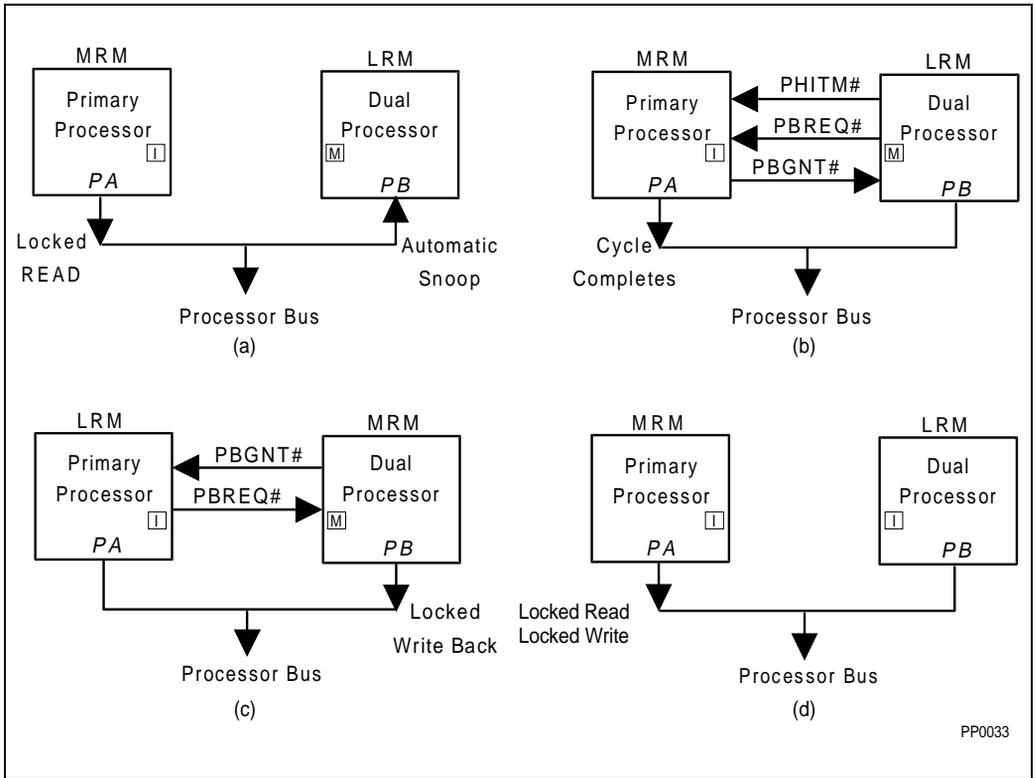

Figure 3-7. Dual-Processor Cache Consistency for Locked Accesses
2. A locked read to a cache line that is in the shared, exclusive or invalid state is always run on the system bus. The cache line will always be moved to the invalid state at the completion of the cycle. A locked read cycle that is run by the MRM could hit a line that is in the modified state in the LRM. In this case, the LRM will assert the PHITM# signal indicating that the requested data is modified in the LRM data cache. The MRM will complete the locked read, but will ignore the data returned by the system. The components will exchange ownership of the bus, allowing the Modified cache line to be written back with LOCK# still active. The sequence will complete with the original bus owner re-running the locked read followed by a locked write. The sequence would be as shown in Figure 3-7.
In Figure 3-7, the small box inside each CPU indicates the state of an individual cache line in the sequence shown above. Diagram (c) of Figure 3-7 shows the locked writeback occurring as a result of the inter-processor snoop hit to the M-state line.